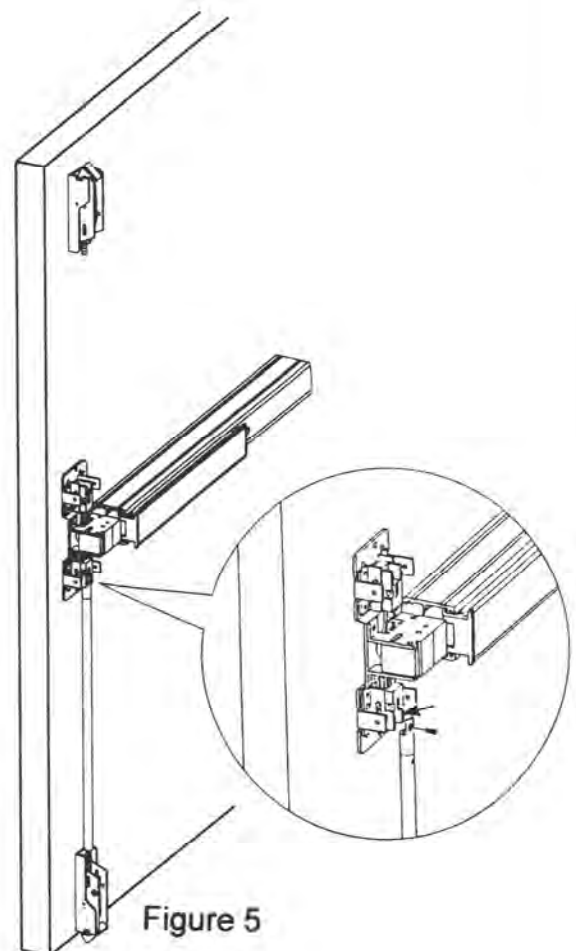

Figure 5
3. Tighten bottom rod on arrow mark position of chassis assembly. (See Figure 5.)